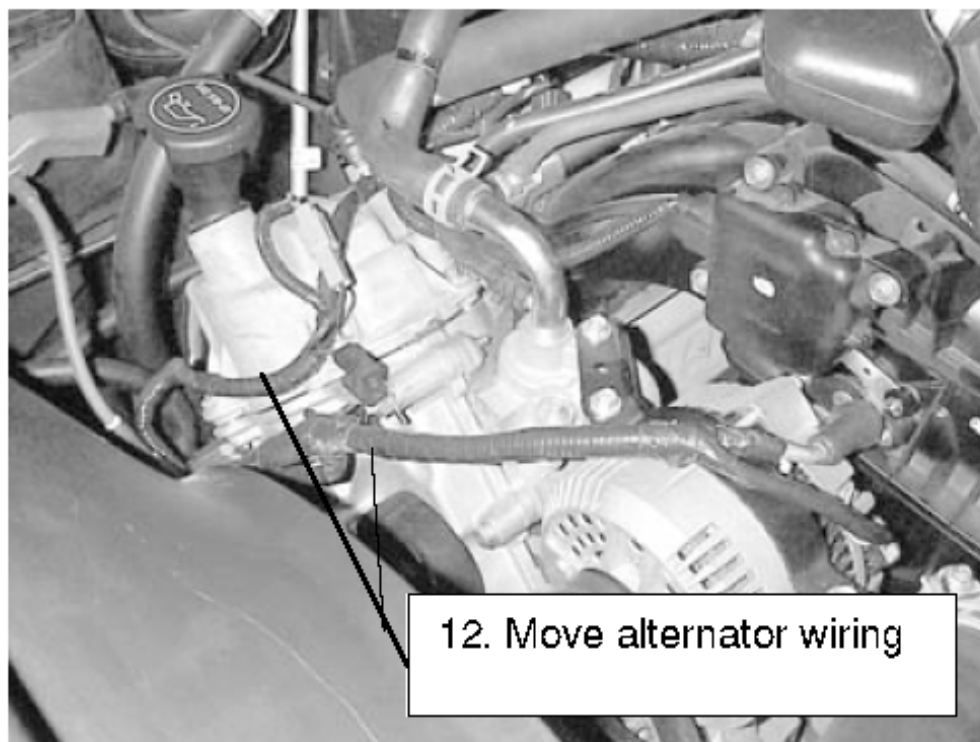

Fig. 3
11. Insert the short idler bushing (2) into the 3" dia. idler pulley (5) and attach the other side to the boss on the front of the pump mount bracket (1) at Location C with the M10 x 30 shoulder bolt (8). Torque to 19-25 ft-lb.
12. Insert the longer idler bushing (17) into the beveled side of the 2" dia. idler pulley (16) and attach to the pump bracket at Location D with the M10 x 45 (18) bolt with a 3/8 flat washer (19). Torque to 19-25 ft-lb.
13. See Fig. 3. Disconnect the wiring from the alternator, pull it from the attachment points on the valve cover and push it back on top of the valve cover. Make sure the alternator wiring will not be pinched between the engine and the pump bracket when it is installed.
14. Attach the pump mount bracket (1) to the engine with the OEM stud bolt (6) at Location A and the M8 x 60 bolt at Location B. Torque these bolts to 19-25 ft-lb.